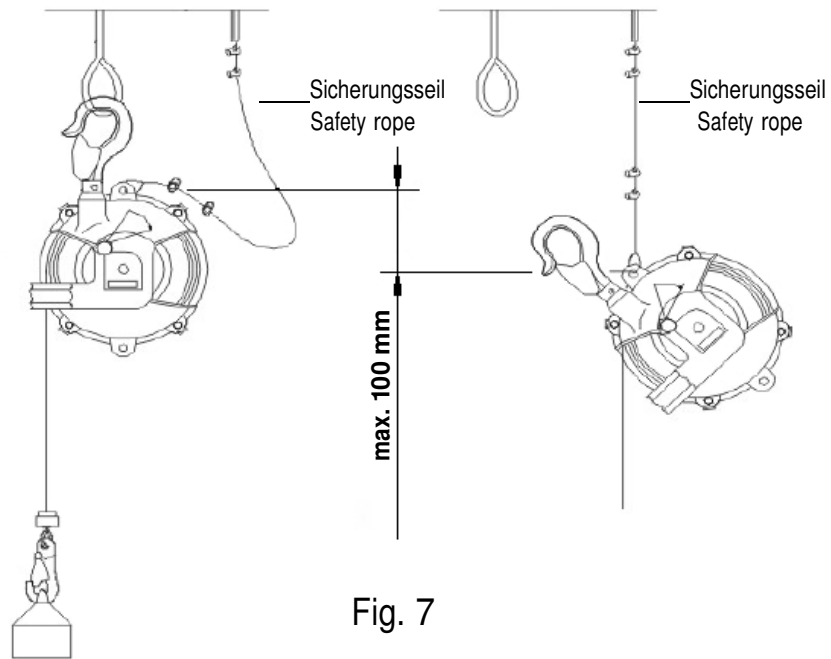

Fig. 7
- According to DIN 15112, a secondary support cable or chain has to be fitted (Fig. 6, Pos. 2). Attach one end of the secondary support cable or chain to the balancer body and the other end to a separate fitting which does not support the balancer. Leave some slack in the secondary support cable or chain to allow the balancer to rotate freely. The slack must be a suitable length so that the balancer will stop within 100 mm of the suspension point in case of failure of the suspension hook or the fitting (Fig. 7).